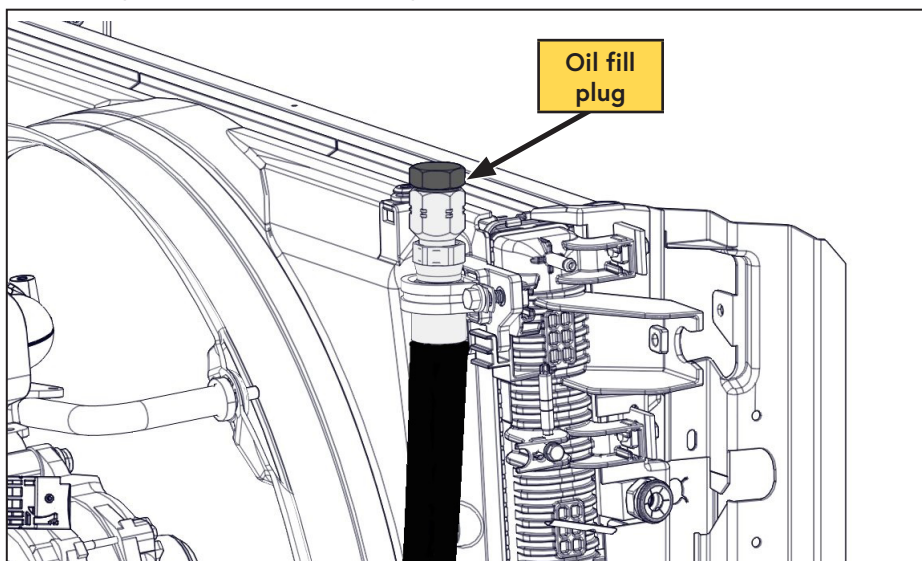

Figure 72 — Oil fill hose location
- ☐ Remove the plug from the oil-fill hose located in the engine bay on the passenger side of the radiator (Figure 72).